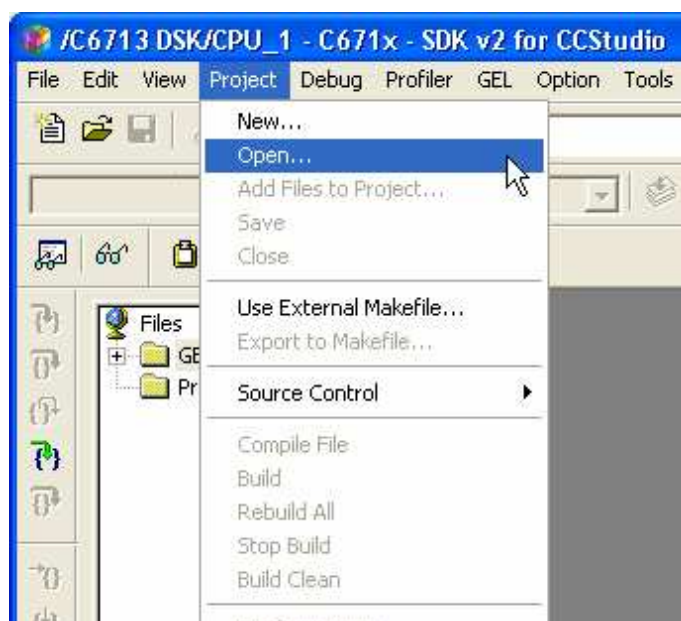
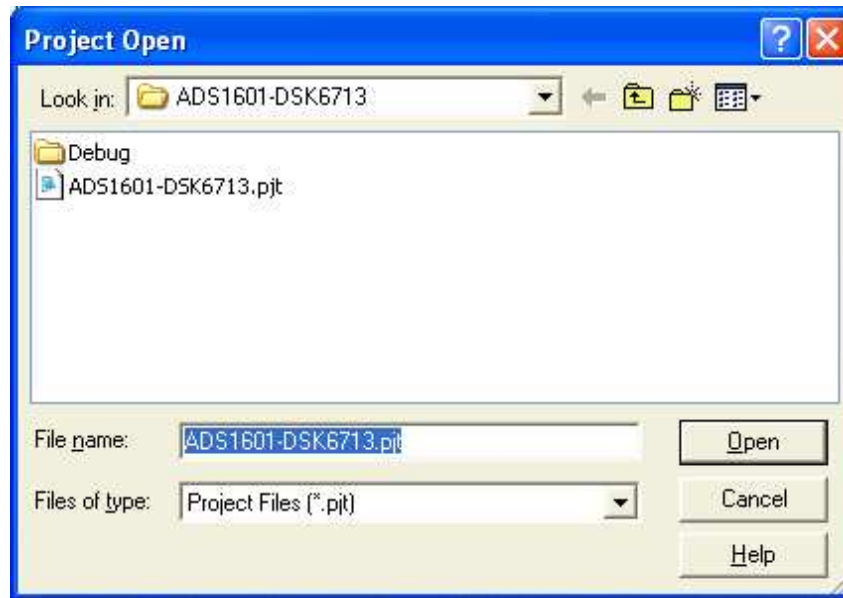

Figure 15. CCS Project Menu
Figure 16. CCS Project Open Dialog
- In Code Composer Studio, open the project for your DSP hardware platform (see Figure 15 and Figure 16) by clicking on *Project -> Open* on Code Composer Studios menu bar and loading the respective project for your hardware/starter kit from the path, where you copied the example projects to: